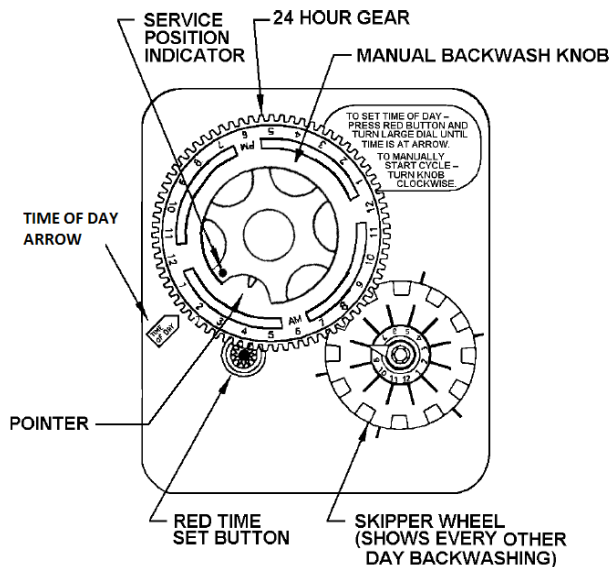

FIGURE 4a: Timer in Service Position
FBW ONLY: advance the control valve to the “Service” position (Figure 4a, Page 9) by turning the Manual Backwash Knob clockwise.
STEP 18: **FBW ONLY:** Set the current time of day by depressing the red Time Set Button and turning the 24 Hour Gear to the desired time (note AM and PM). Refer to Figure 4a, Page 9.
2. Locate three screws (Fig. 4b) behind the Manual Backwash Knob by pushing the red Time Set Button (Fig. 4a) and rotating the 24 Hour Gear (Fig. 4a) until each screw appears in the cut out of the Manual Backwash Knob.
4. Continue depressing the red Time Set Button and rotate the 24 Hour Gear to expose the Regeneration Time Pointer (Fig. 4a) in the cut out of the Manual Backwash Knob. Keep the Regeneration Time Pointer visible in the cut out while rotating only the time plate until the desired time (note AM or PM) is aligned with the Regeneration Time Pointer.
- 17) Manually advance the control valve to the “Service” position (Figure 4a, Page 9). Check for and resolve any leaks in the unit or connected plumbing.